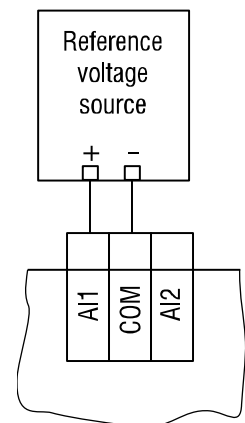

Fig. E.1
1. Connect the reference signal source of accuracy class at least 0.05 to the input (Fig. E.1).